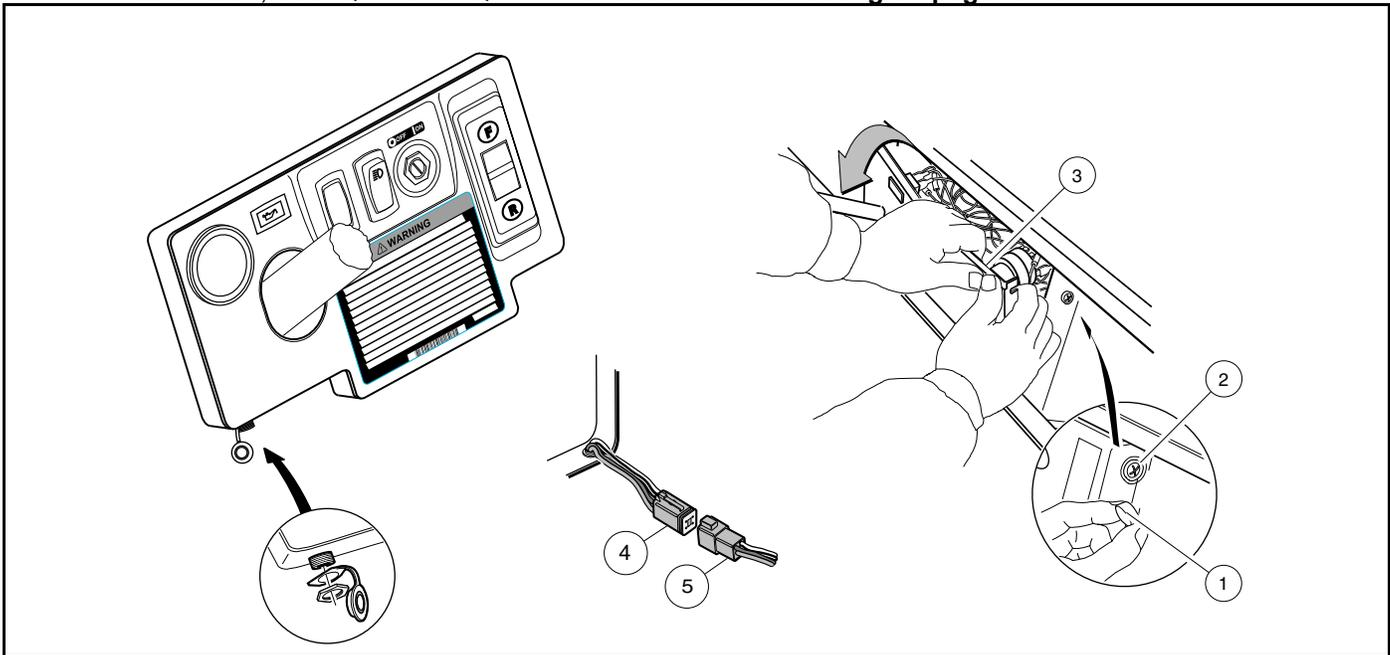

Figure 23-7 Testing IQDM Jack
- 3.1. Remove the center dash panel (**Figure 23-7, Page 23-22**).
- 3.1.1. Remove the plastic cap (1) covering the mounting screw (2) on each side of the center dash panel (3) (**Figure 23-7, Page 23-22**).